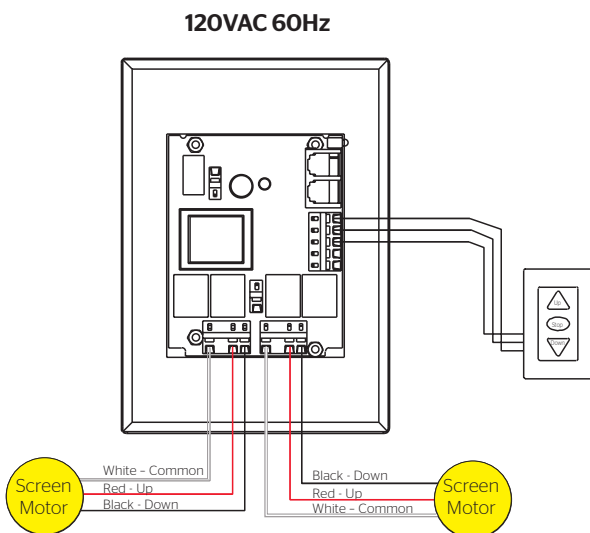

Figure 8
2. Connect the motor wires in the screen junction boxes to the DMC as shown in Figures 8 or 9.